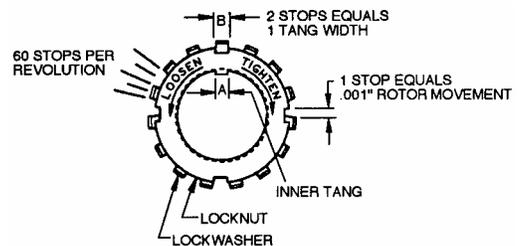

Figure 1 – Locknut Assembly
The purpose of the locknut adjustment is to center and maintain the pump rotor between the discs. It is very important that the bearing locknuts be installed properly. Overtightening locknuts will cause bearing failure and/or a broken lockwasher inner tang "A" (see Figure 1). Loose locknuts will allow the rotor to shift, causing excessive wear on the discs.
5. Back off the nut the width of one lockwasher tang "B" (see Figure 1), or two stops. Secure the locknut by bending the closest aligned lockwasher tang into the locknut slot. Make sure the pump turns freely when rotated by hand.